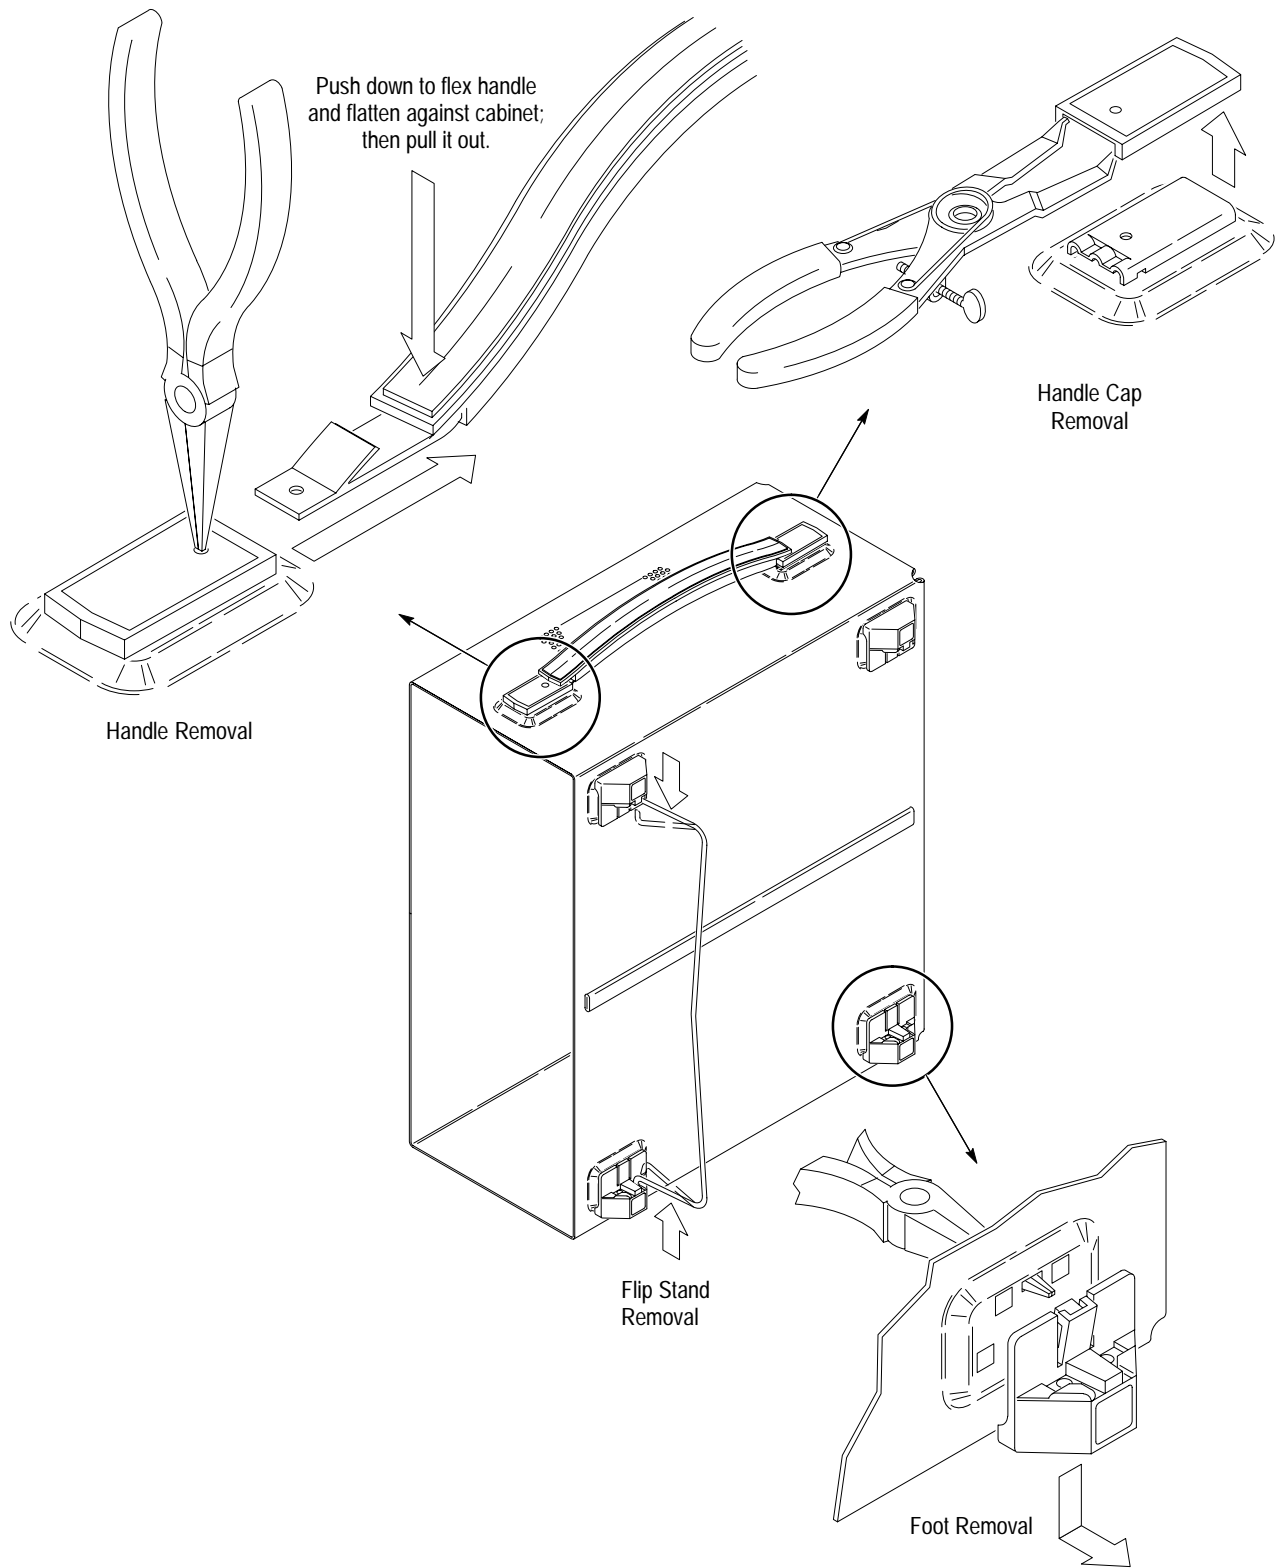

Figure 6-10: Cabinet Modules Removal
- a. Insert the tips of a pair of needle-nose pliers (Item 6) into the hole of either handle cap. Push and hold to depress the handle release (see Figure 6-10).
- b. While holding the handle release depressed, pull the handle out of the slot in the handle cap. Repeat procedure to remove the handle from the other handle cap (see Figure 6-10).